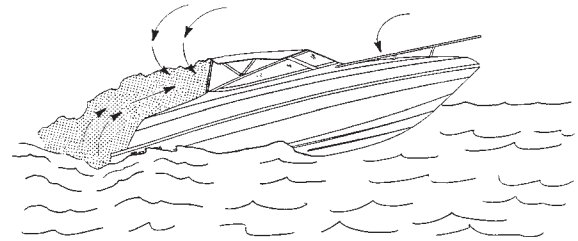

Figure B10: Inefficient trim angles.
1. Intentional or unintentional excessive trim angle causing high bow angle. See Figure B10.